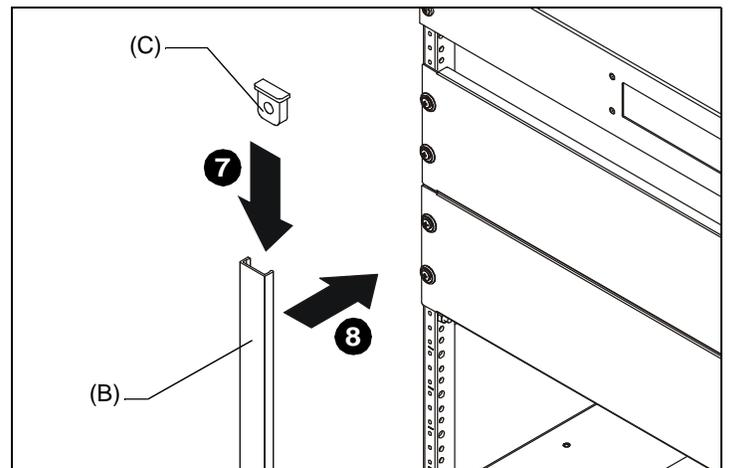

Figure 3
7. Install end caps (C) into each end of the FSK finishing strip (B). (See Figure 3)
8. Position finishing strip over screws with retention washers and snap finishing strip into place over washers. (See Figure 3)